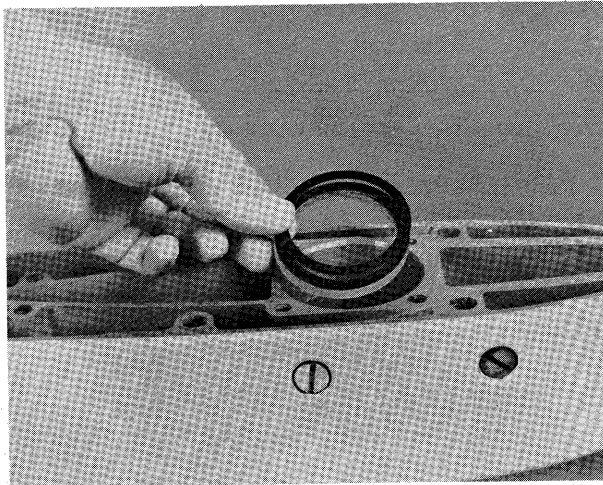

Figure 20—Removing Shims
- D. Remove driveshaft with bearing - upper from gear housing. Remove shims from bore in gear housing. See figure 20.